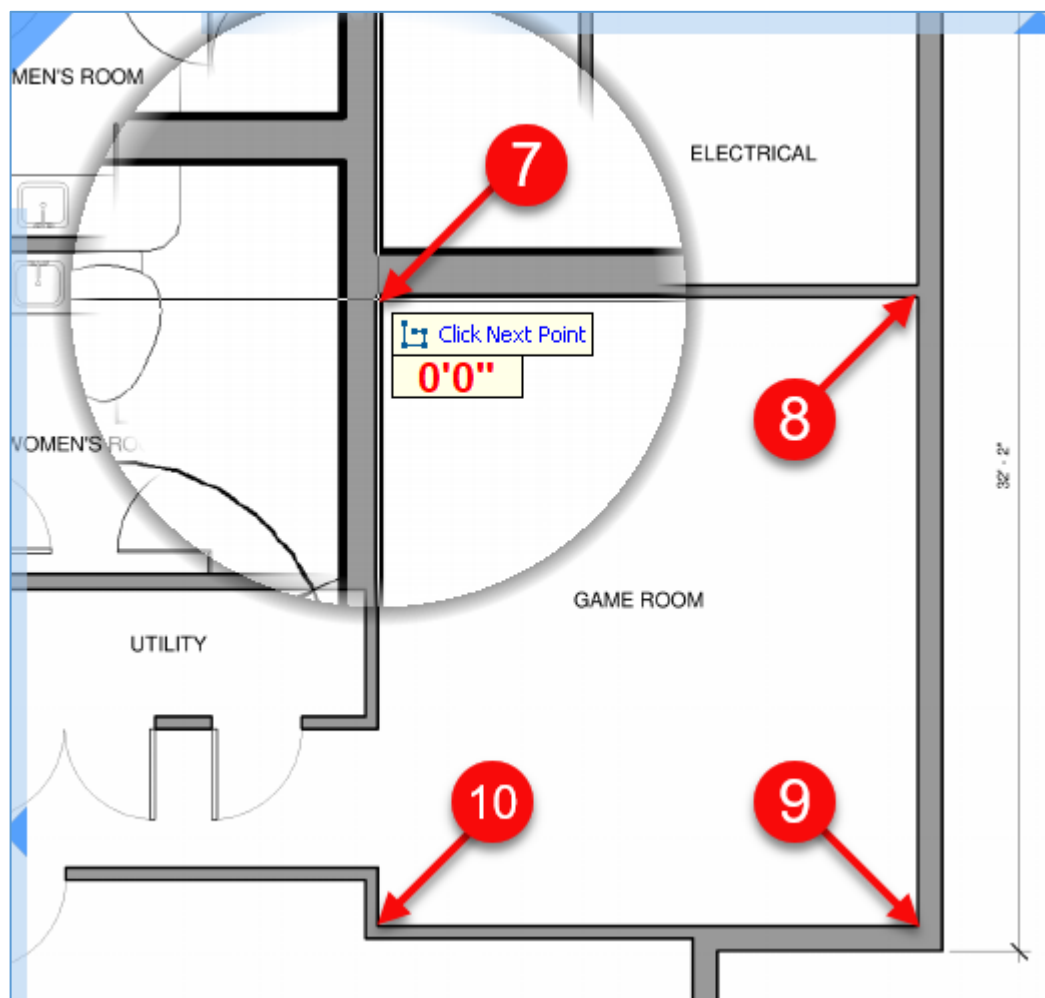

Figure 11-B
11. Click back at the beginning **Point**, then right click and click on **Stop** on the drop-down menu or press **C** or **Esc** on the keyboard to close the linear (Fig. 11-C).